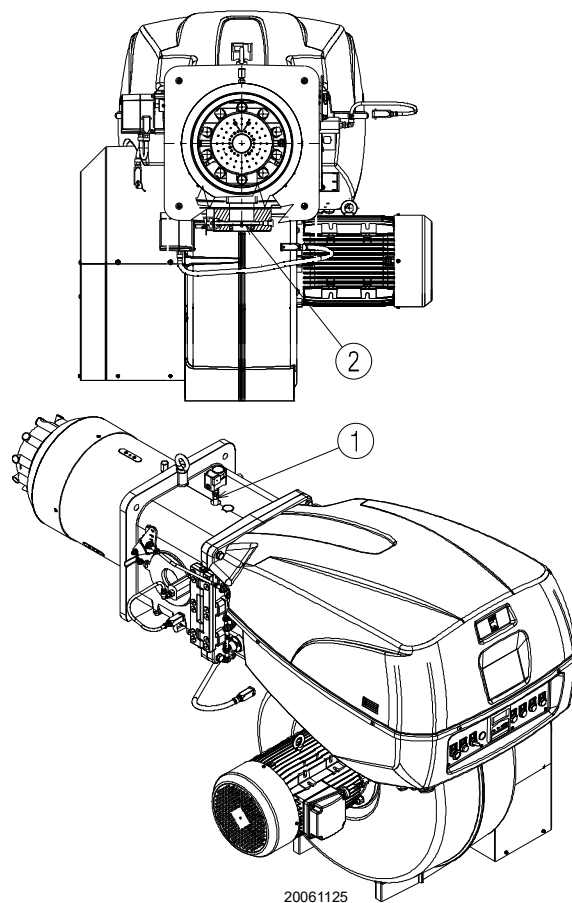

Fig. 19
Gas pressure measured at the test point 1) (Fig. 19), with:
Pressure loss at gas butterfly valve 2)(Fig. 19) with maximum opening: 90°.
- subtract the combustion chamber pressure from the gas pressure measured at test point 1)(Fig. 19).
Gas pressure at test point 1)(Fig. 19)	= 56.4 mbar
To calculate the required gas pressure at test point 1)(Fig. 19), set the maximum modulating output required from the burner operation:
- read, on the right (column 1), the pressure at the test point 1)(Fig. 19).
Pressure required at test point 1)(Fig. 19).